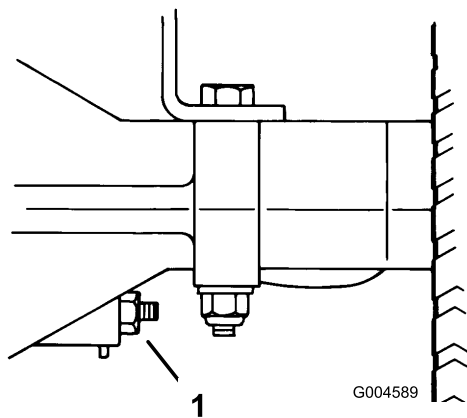

Figure 33
2. To increase the braking resistance, tighten the brake adjusting nut (Figure 33) 1/8 turn clockwise.